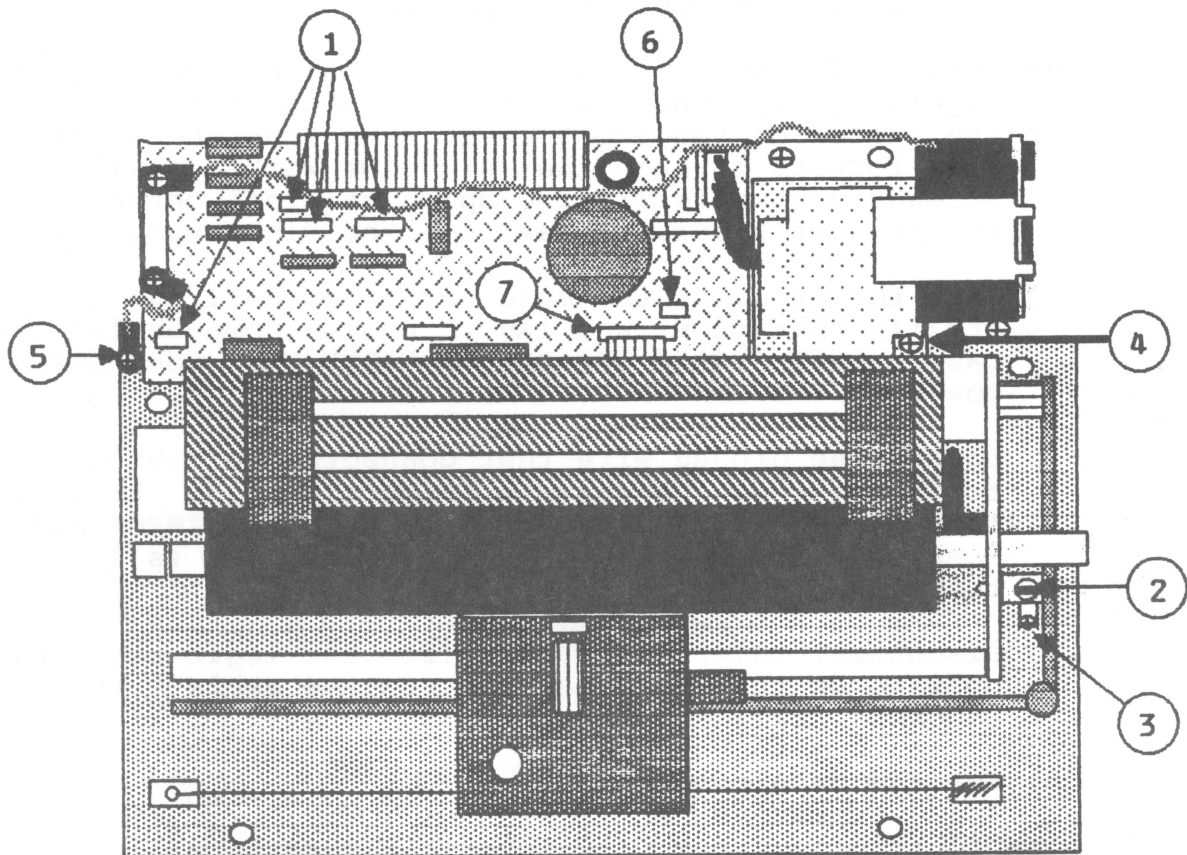

Figure 5
1. Disconnect the cables from the four leftmost sockets on the logic board (Figure 5, #1). Remember to pull on the cable connectors, not on the wires.
2. Remove the power switch (Figure 5, #2) from the right side of the mechanism assembly as follows:
- a) Remove the screw at the base of the power switch (Figure 5, #3).
3. Remove the screw just to the right of the transformer (Figure 5, #4).
4. Remove the small screw at the far left that connects the mechanism assembly to the electrical assembly (Figure 5, #5).
6. Disconnect the cable next to the flat mylar cable (Figure 5, #6).
7. Disconnect the flat mylar print head cable (Figure 5, #7) from the logic board as follows:
- a) Using the IC extractor, pull up the ceramic cable-holder about 1/8 inch (Figure 5, #7) to release the cable. DO NOT FORCE IT; DO NOT PULL THE CONNECTOR OFF. Be careful not to damage the mylar cable.